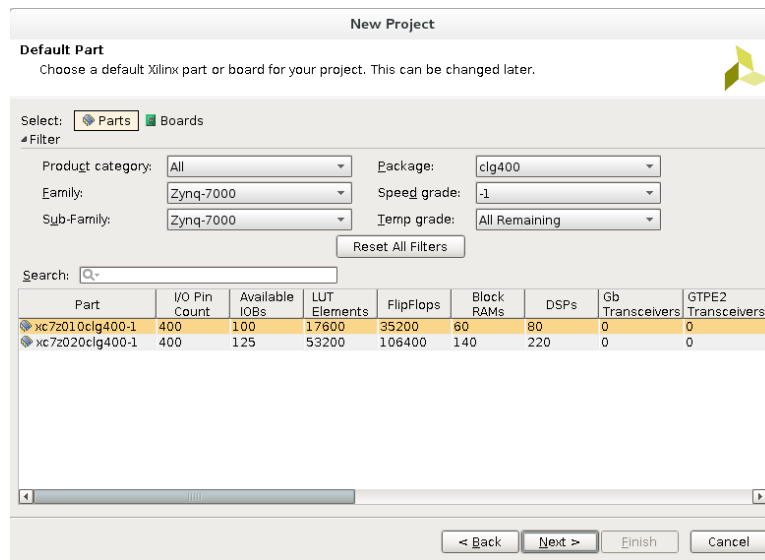

Figure 2: Device Properties
- (c) Next, the 'Default Part' window appears (Figure 2). We can select our hardware from the 'Parts' tab or from the 'Boards' tab. The 'Parts' tab lists Xilinx supported Parts(FPGAs) and the 'Boards' tab lists the supported boards. The ZYBO (Zynq Board) is an entry-level digital circuit development platform built around the Xilinx Zynq-7000 family, the Z-7010. The Z-7010 is based on the Xilinx All Programmable System-on-Chip (AP SoC) architecture, which inte-